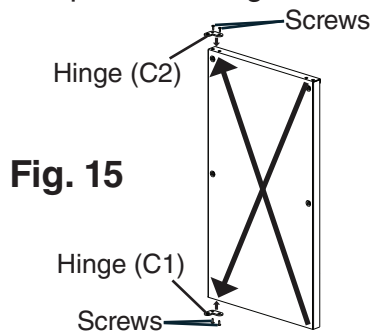

**Fig. 13**
- d) Remove hinge (B) from the right side of the unit and the 2 filler screws from the left side. Attach the 2 filler screws to the right side and attach hinge (B) to the left side. See Fig. 13.